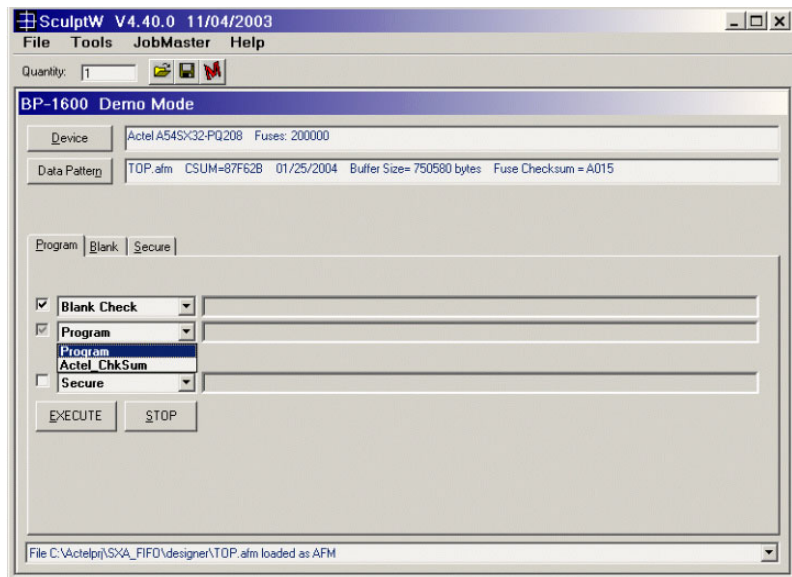

Figure 1-9. Programming Dialog Box
3. Select Program from the second pull down menu. See Figure 1-9.
2. Select Actel_ChkSum in the second pull-down menu (see Figure 1-9).